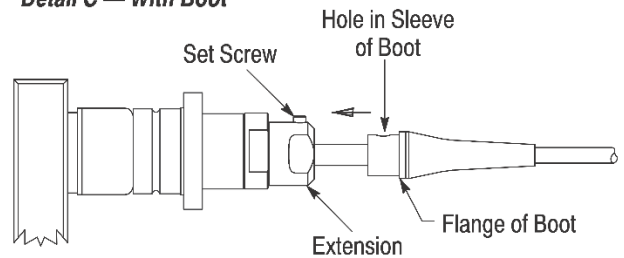

Figure 15
19. Slide the extension onto the housing, and finger-tighten. Using the 16-mm open-end wrench, tighten the extension to a torque between 4 and 5 N·m. See Figure 15, Detail A.
If the boot is *not* included with the cable adapter kit, using the 2-mm hex wrench, thread the set screw into the hole in the extension until it bottoms (on the crimp sleeve). See Figure 15, Detail B.
If the boot *is* included with the cable adapter kit, using the 2-mm hex wrench, thread the set screw into the hole in the extension by approximately two turns. See Figure 15, Detail E. Then align the hole in the sleeve of the boot with the set screw, and slide the boot into the extension (but over the crimp sleeve) until the flange of the boot bottoms on the extension. Thread the set screw into the hole in the sleeve of the boot until it bottoms on the crimp sleeve. See Figure 15, Detail C.